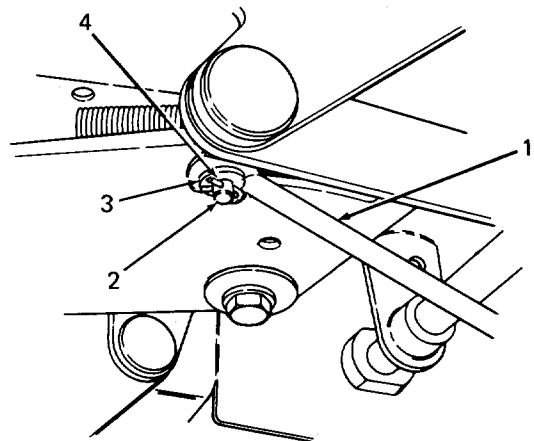

Figure 37
- While working from the left side of the tractor, locate the deck brake rod under the tractor. (Refer to Figure 37.)
4. Remove the brake rod from the clutch rod by removing the hairpin cotter and the flat washer. (Refer to Figure 37).
2. Work from the left side of the tractor and remove the brake rod from the clutch rod by removing the hairpin cotter and flat washer. (Refer to Figure 37.)